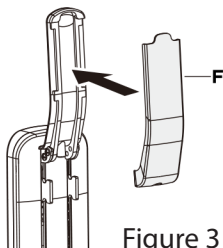

Figure 3
3. Place the **Lever Front Cover** on to the **Lever Back Plate**. As shown in Figure 3.